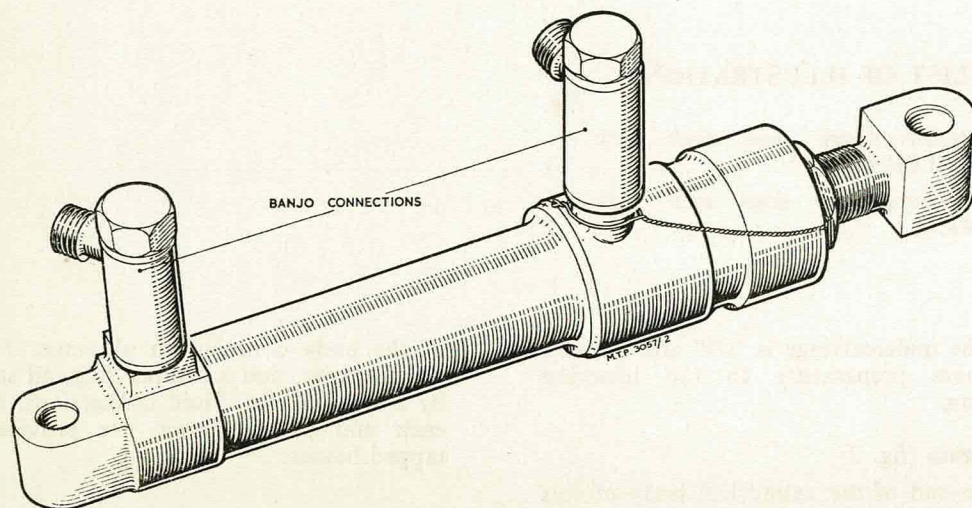

Fig. 1. Main undercarriage door lock jack assembly 1.01076.001
1. This assembly consists of the basic unit, main undercarriage door lock jack 5268, Mk. 2 together with two banjo connections (fig. 1); each connection is secured to its respective port by a banjo bolt, which is sealed by washers. The jack locks the main undercarriage doors in the closed position